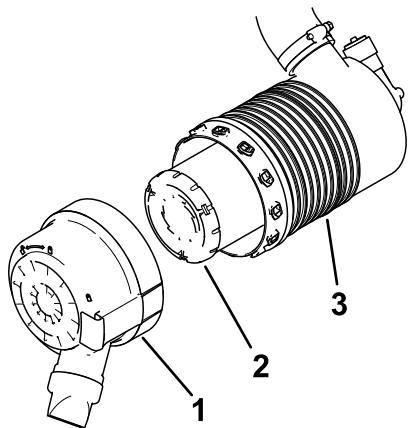

Figure 39
- Install the air-cleaner cover with the dust cap oriented downward as shown in Figure 39 and secure the latches.